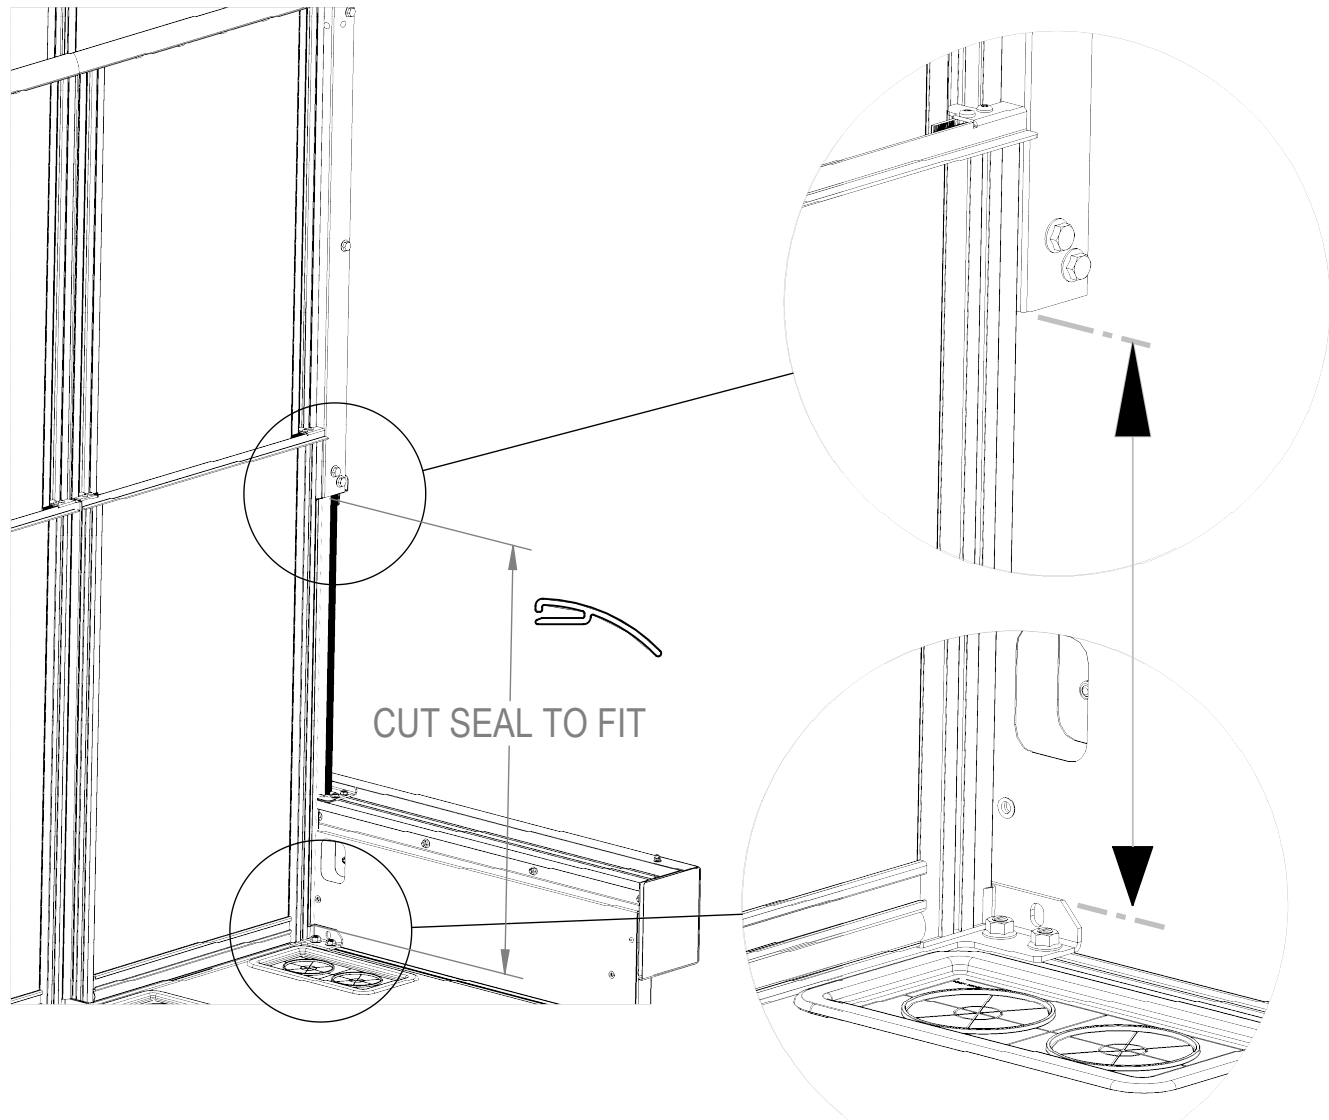

Figure 3.
2. Measure the distance between the lower edge of the Upper Corner Bracket installed in Step 1 to the top of the edge of cabinet panel base as shown in Figure 3. Trim flexible seal strips to fit and install with the curve directed inwards as shown.